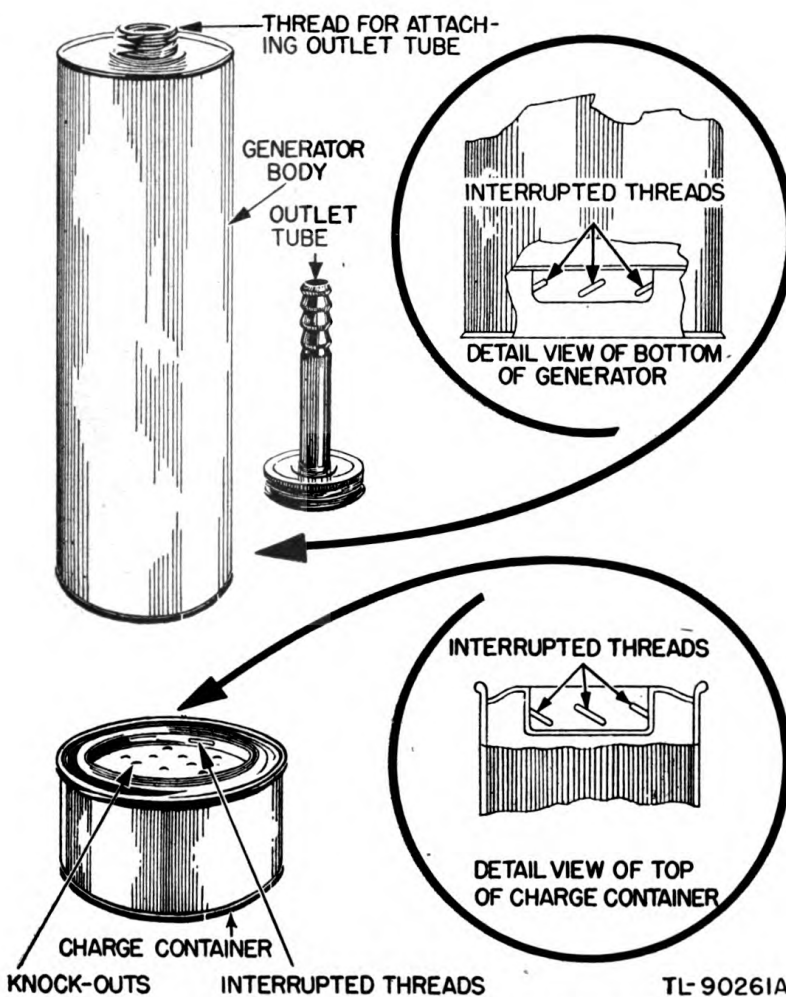

Figure 1. Hydrogen Generator ML-303/TM and Calcium Hydride Charge ML-304/TM.
2. COMPONENTS. Hydrogen Generator ML-303/TM consists principally of a generator body and an outlet tube (fig. 1). The generator is used with Calcium Hydride Charges ML-304/TM and ML-305/TM. A punch is provided.
a. Body for Hydrogen Generator ML-303/TM. The generator body is a cylindrical can constructed of iron which is electrogalvanized, bonderized, and painted. It is approximately $15\frac{1}{2}$ inches long and $5\frac{1}{8}$ inches in diameter. The top of the cylinder is provided with a neck threaded to mesh with the outlet tube when the generator is in use (fig. 1). The bottom of the generator is recessed and has a protruding screw opening with male interrupted screw threads provided for attaching the calcium hydride charge (figs. 1 and 2). Eighteen holes, each approximately $\frac{3}{8}$ inch in diameter, are arranged in a concentric circle around the center opening; these openings serve as vents for the passage of water.
4. CALCIUM HYDRIDE CHARGE ML-304/TM (figs. 1 and 3). Calcium Hydride Charge ML-304/TM contains between 13 and 14 ounces of calcium hydride, 40 percent pure. This quantity generates approximately 6 cubic feet of hydrogen for the inflation of a 30-gram balloon. The charge is sealed in an airtight metal can approximately $3\frac{5}{8}$ inches in diameter, $2\frac{1}{2}$ inches high, and about 17 ounces in weight. The top of the charge can is recessed and is provided with a screw fitting by means of which the charge can is attached to the bottom of the generator body. The screw threads are interrupted so that only one-sixth of a turn is required to attach the charge to the generator. The top of the can is provided with 10 knock-out holes, which are punched out immediately before the charge is used, to expose the calcium hydride.